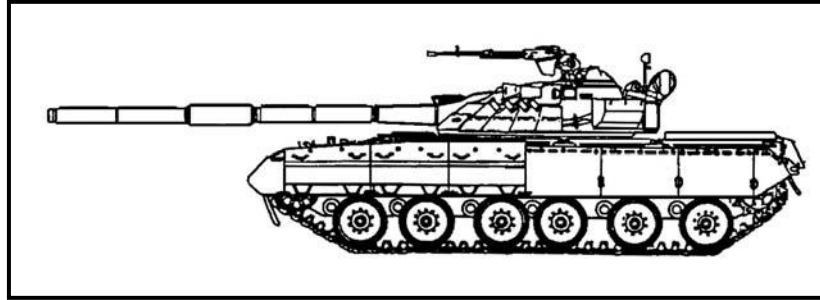

Figure H-4. Russian main battle tank, T-80U.
(4) Russian Main Battle Tank, T-80U (Figure H-4).